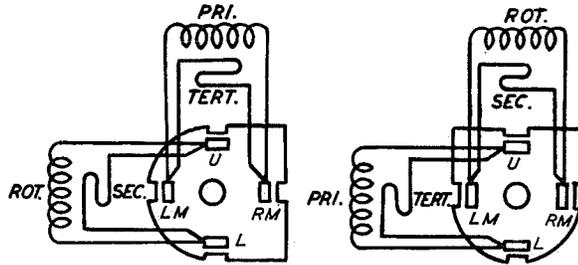

FIG. 32 - WINDING TERMINAL ARRANGEMENT AS VIEWED FROM THE REAR (TERMINAL SIDE) - 5 TYPE MESSAGE REGISTERS
4.03 Fig. 32 shows the winding terminal designations for this register as viewed from the rear of the register. Connections to the frame of this register are indicated by FR.